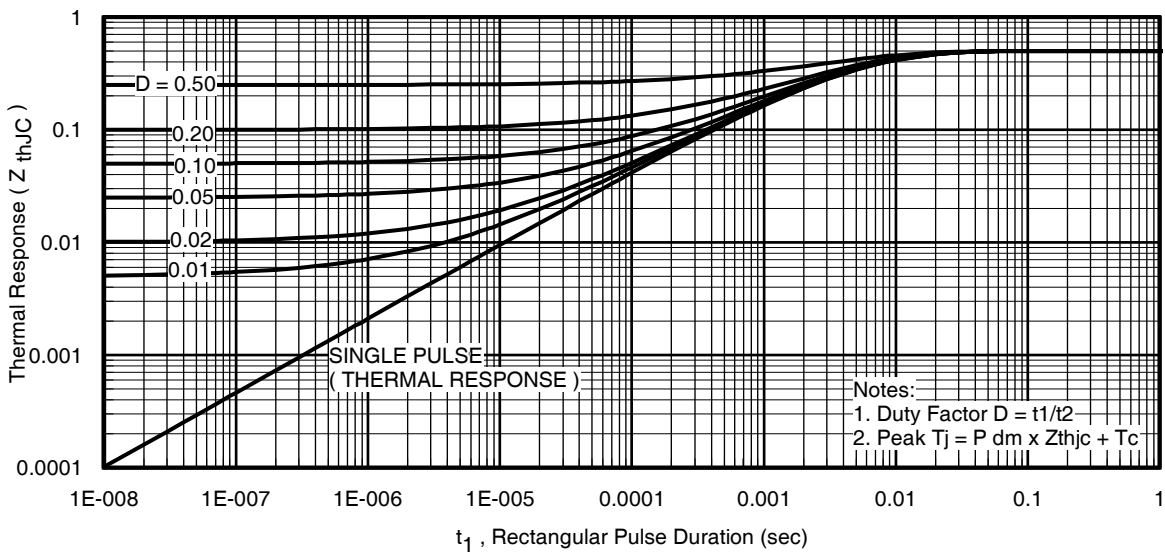
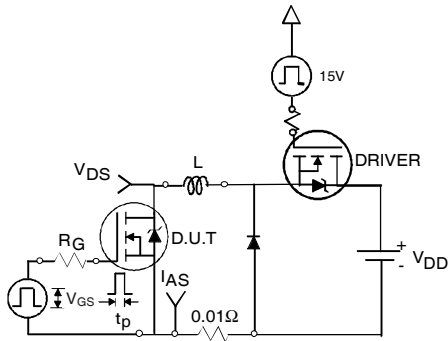

Fig 11. Maximum Effective Transient Thermal Impedance, Junction-to-Case
Fig 12a. Unclamped Inductive Test Circuit
- ① Repetitive rating; pulse width limited by max. junction temperature. (See fig. 11).
- ② Limited by T_{Jmax}, starting T_J = 25°C, L=0.24mH, R_G = 25Ω, I_{AS} = 75A, V_{GS} = 10V. Part not recommended for use above this value.
- ③ I_{SD} ≤ 75A, di/dt ≤ 220A/μs, V_{DD} ≤ V_{(BR)DSS}, T_J ≤ 175°C.
- ④ Pulse width ≤ 1.0ms; duty cycle ≤ 2%.
- ⑤ C_{oss eff.} is a fixed capacitance that gives the same charging time as C_{oss} while V_{DS} is rising from 0 to 80% V_{DSS}.
- ⑥ Limited by T_{Jmax}, see Fig.12a, 12b, 15, 16 for typical repetitive avalanche performance.
- ⑦ This value determined from sample failure population. 100% tested to this value in production.
- ⑧ This is applied to D²Pak, when mounted on 1" square PCB (FR-4 or G-10 Material). For recommended footprint and soldering techniques refer to application note #AN-994.
- ⑨ Max R_{DS(on)} for D²Pak and TO-262 (SMD) devices.
- ⑩ TO-220 device will have an R_{th} value of 0.45°C/W.
3. Equation below based on circuit and waveforms shown in Figures 12a, 12b.
$Z_{thJC}(D, t_{av})$ = Transient thermal resistance, see figure 11)